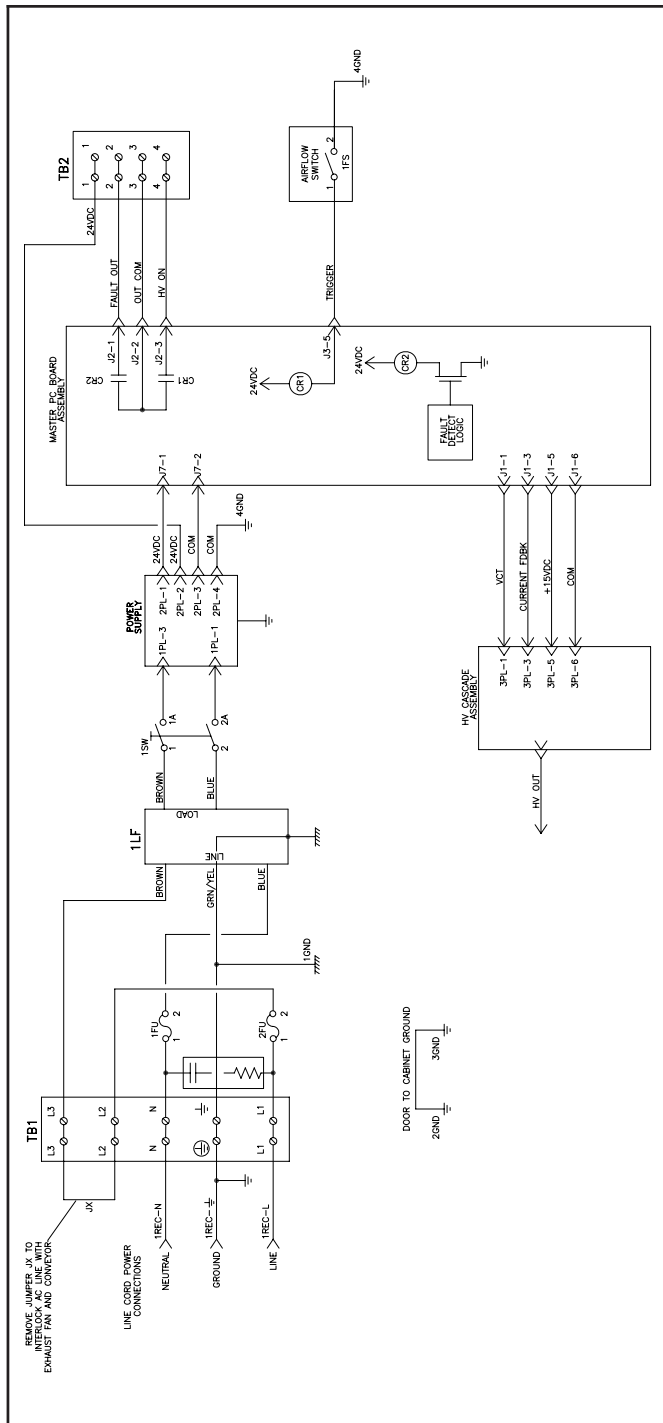

Figure 16d: Power Supply Schematic
4. Using a shielded cable for the interlock wiring (supplied by user), route through the interlock connector on the rear of the power supply and terminate TB1-L2 and TB1-L3 as shown in Figure 16d. The shielded cable must have a minimum rating of 300V and 105°C and its conductors should be 0.8mm² (18 AWG) minimum. Secure the cable to the interlock connector as described in "I/O Connections" in this section so that the shield of the cable is connected to the chassis of the enclosure.